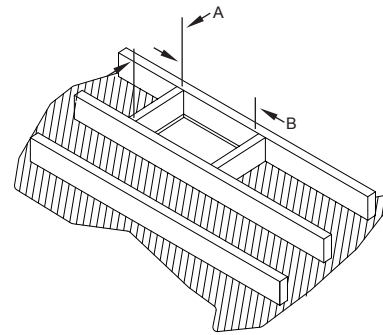

FIG. 1
2. Using framing lumber equal to ceiling joist size, frame ceiling opening as shown in FIG. 1 and TABLE 1.
5. Proceed to the next ceiling. **If Metal-Fab Elbows are to be used because the chimney is to be offset, refer to "Installation of Elbows" section.** Directly above the Center of the flue in the ceiling support, mark the ceiling. A plumb bob is normally used to find the center. Cut an opening in the ceiling using FIG. 1 and Table 1.